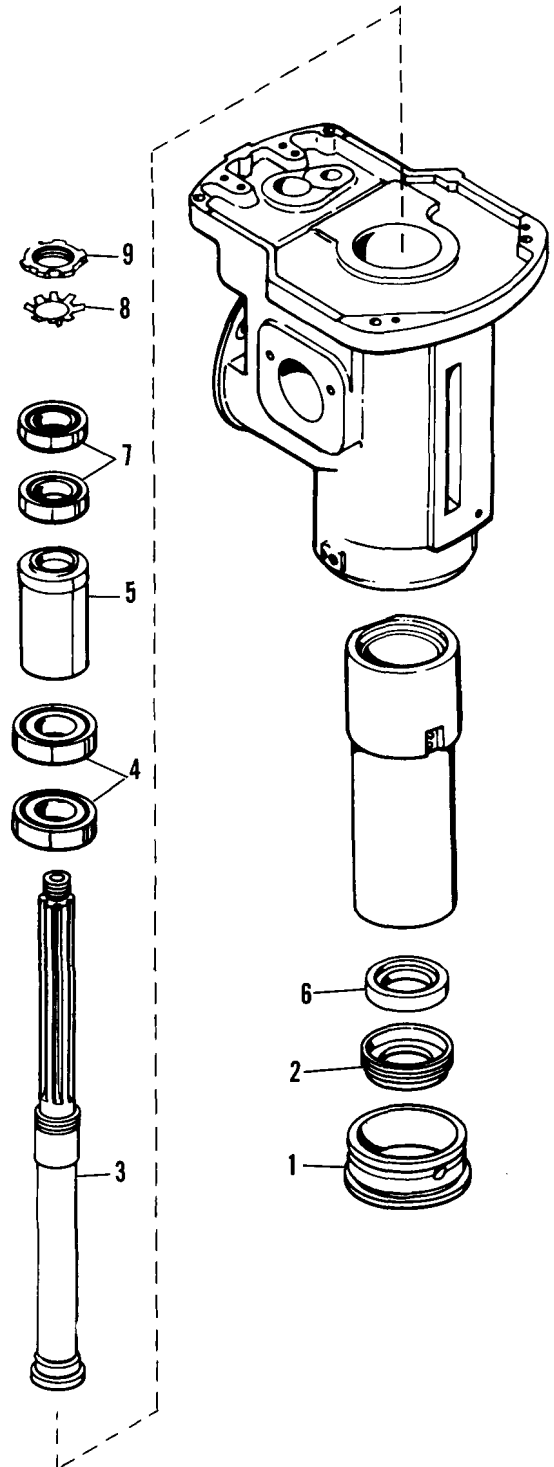

Figure 17. Removing Spindle Bearings
42. REPLACING SPINDLE BEARINGS (figure 17)